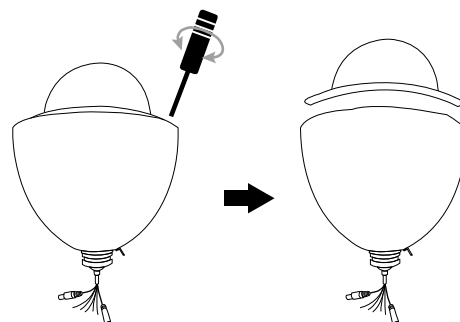

Figure 1
Step 1: Loosen the screws on the dome cover to remove it (as shown in *Figure 1*), and take all EPE foam rolls off in the camera.